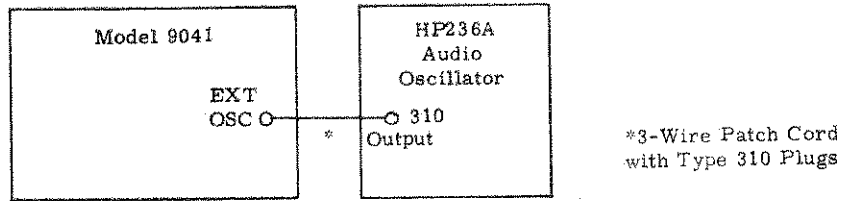

Figure 3-7. Internal Hybrid Frequency Response Check, Test Setup
3.12 For this check, the frequency response of the internal hybrid is verified over the range of 200Hz to 5kHz. The frequency response should be within ± 0.2 dB over this range. Only the HP236A Audio Oscillator is required for this check. The test setup is shown in Figure 3-7.